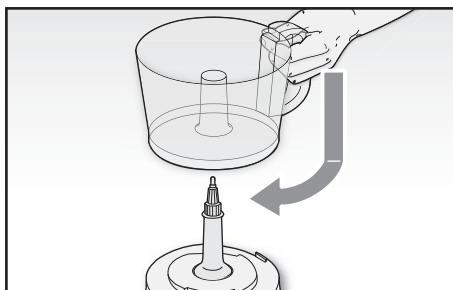

Fig. 3
- 2 Put the bowl (P) on the motor body (Fig. 3). Align the notch on the bowl with the symbol (⚙️). Rotate the bowl clockwise. Align the notch on the bowl with the symbol (🔒).